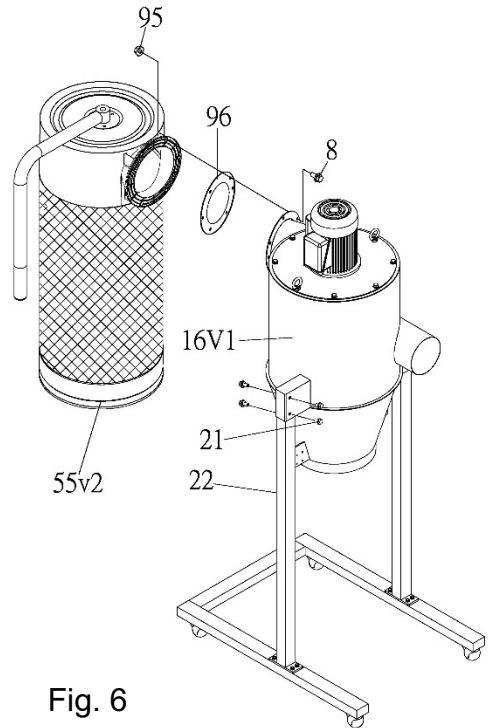

Fig. 6
- Assemble the Canister filter (NO. 55v2) on the Main Housing (NO.16v1) and tighten with Gasket (No.96) and Flange Bolt Screw $5/16" \times 3/4"$ (NO. 8) and Nut $5/16"$ (NO. 95). See FIG. 6